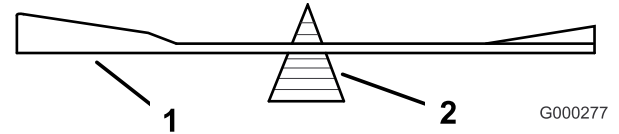

Figure 80
2. Check the balance of the blade by putting it on a blade balancer (Figure 80). If the blade stays in a horizontal